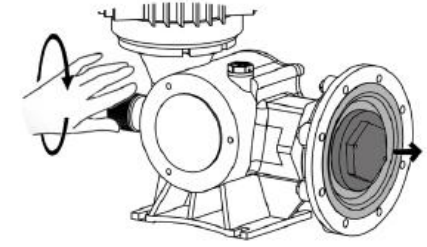

Figure 7
- ◆ Removing the pump head, save the pump head screws and nuts, turn the stroke adjusting rod to the 0 % position. At this time, the diaphragm assembly will be jacked up and separated from the over section. (See figure 7)